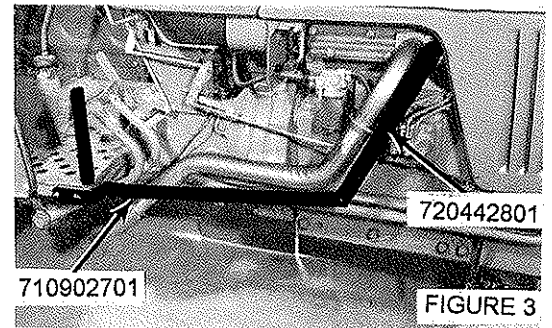

FIGURE 3
8. **IF TRACTOR HAS UPRIGHT EXHAUST** - Remove patch from cut out on right side of cover and button strap behind exhaust. **IF TRACTOR HAS DOWN EXHAUST** - Bolt #710902701 exhaust guard to right step. Front hole in exhaust guard will match hole in step. Bolt to step using 3/8" x 11/2" bolts and nuts. Drill through 2nd hole. Bolt #720442801 exhaust guard to exhaust using 5/16" x 13/4" x 211/16" U-bolt and nuts. Bolt both exhaust guards together using 1/4" x 1" bolt and nut. See Figure 3.